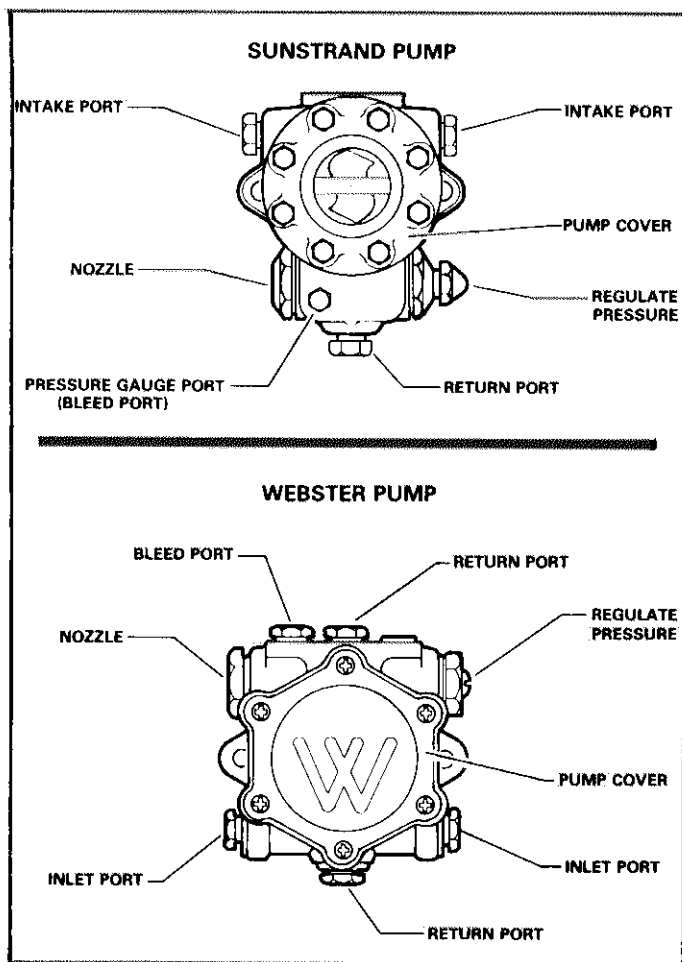

FIGURE 3
Either a Sunstrand or Webster pump is used. Figure 3 identifies the ports for both models. As the oil burner is shipped from factory, it is set up for a single line system. To convert to a two line system, follow the instructions packaged in attached bag assembly.
3 - **Pressure Check** — Use the gauge port or nozzle port to check operating pressure. The pump is factory set at 100 psig but is adjustable. See Figure 3. Never exceed 110 psig operation.
- 4 - **Strainer Access** — An internal strainer removes any sediment or foreign material from oil before it reaches pump. Remove screws securing pump cover for access. See Figure 3.